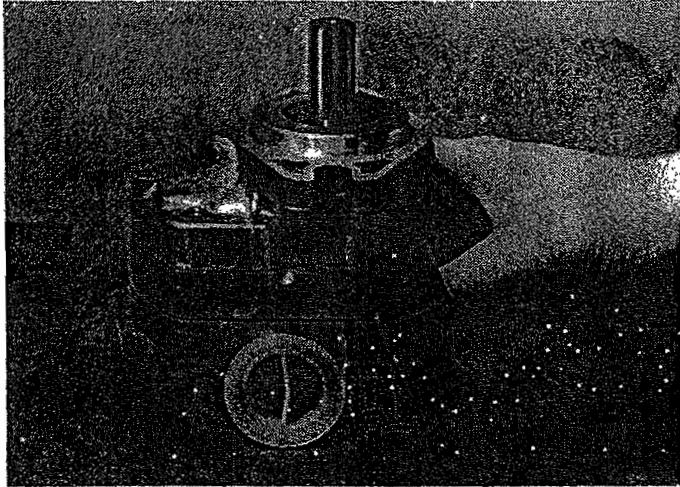

Fig. 5
6. Hold the pump with one hand and tap ears of flange plate (Item 3). This will loosen flange for removal. (Fig. 5)